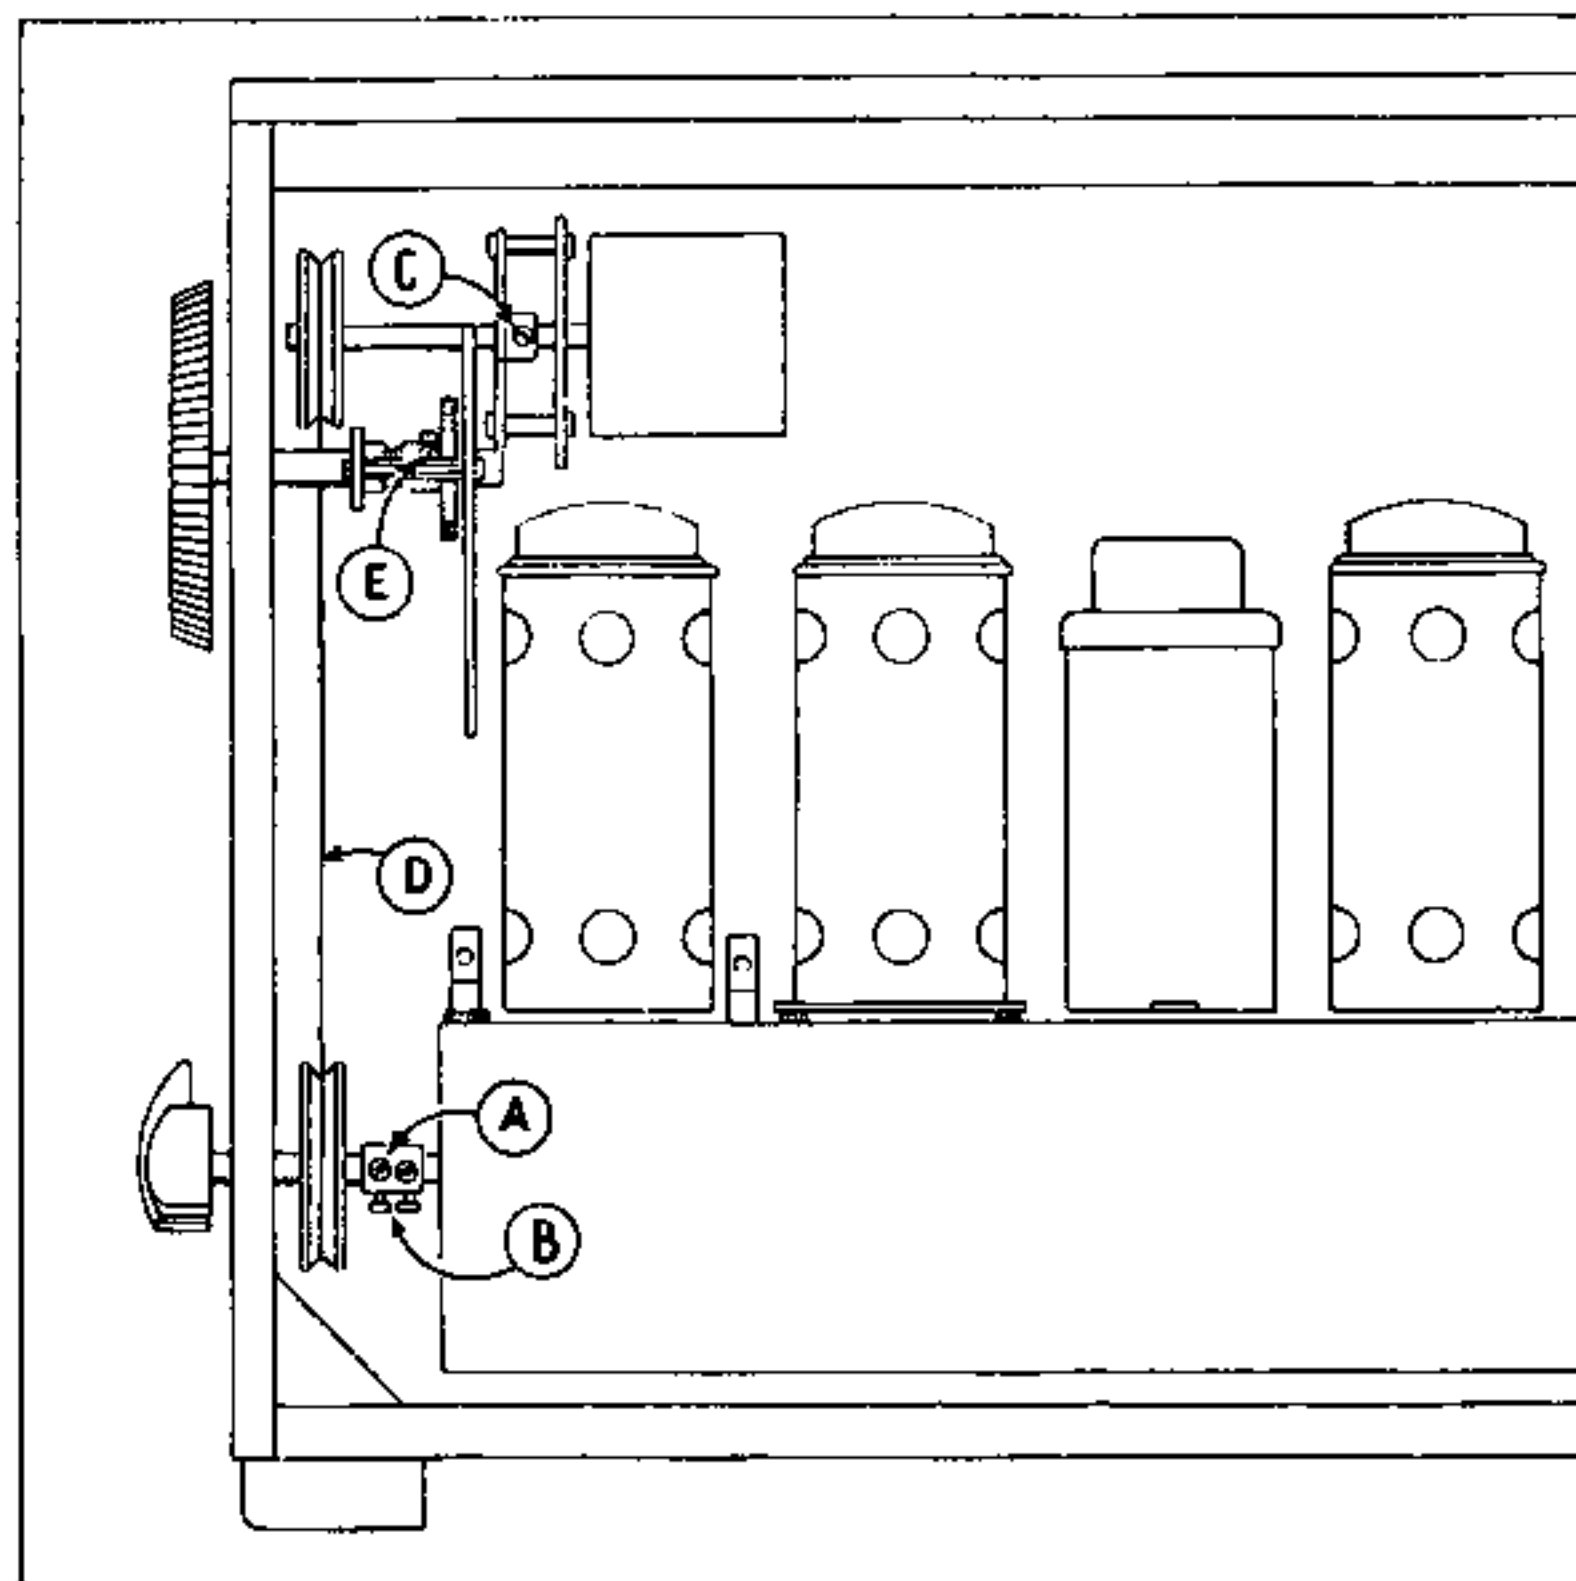

Fig. 9.
Fig. 9 illustrates the correct procedure. The spindle is joined by a coupling within the cabinet. Turn the Range Switch to the 25 M. position and loosen the one screw B nearest the chassis. Do not loosen the screw adjacent to the pulley. Turn the Range Switch to the 13-16 M. position and tighten screw C on the band indicator shaft. Loosen the one screw A nearest the chassis and part the spindle. Leave the extension spindle, with pulley attached, in the cabinet and take care not to unwind the drive cord from the pulley.
- (5) The Tuning Control spindle is held by two screws E in the flywheel boss—see figs. 9 and 10. Loosen screws E and push the spindle inwards sufficiently to allow the chassis to be withdrawn without fouling the cabinet.
- (6) Remove four bolts from beneath the cabinet and withdraw the chassis.